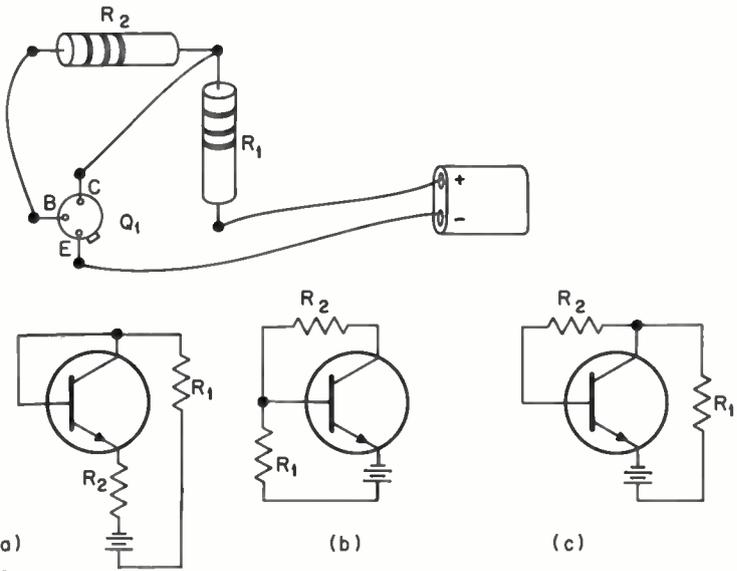

Fig. 58
3. In Fig. 58, match the appropriate schematic diagram (a, b, or c) with the pictorial diagram.